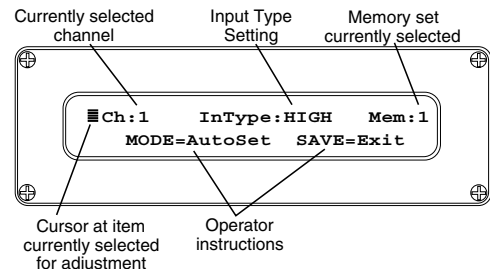

Figure 18 - AutoSet Screen; This screen appears after pressing the MODE button from the Level dB screen.
- ▶ The screen will display the level in dB of all four channels (See Figure 18).